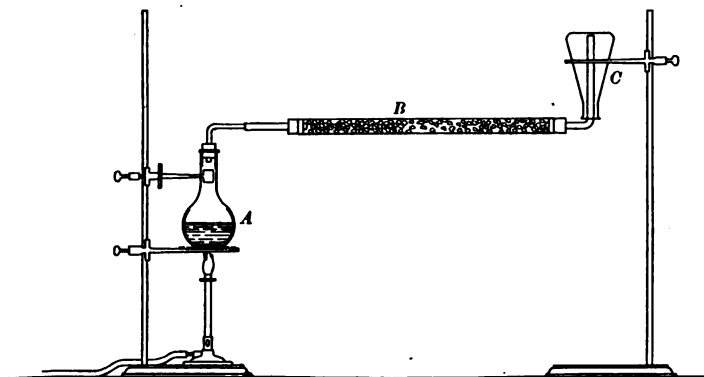

FIG. 39
**81. Weight of 1 liter of ammonia.** Arrange an apparatus as shown in Fig. 39. *A* is a 250-cc. flask containing about 100 cc. of concentrated ammonia water. *B* is a glass tube *entirely* filled with pieces of calcium oxide (unslaked lime) about the size of peas. *C* is the flask used in determining the weight of 1 liter of carbon dioxide (Fig. 30). Heat the ammonia water gently. Ammonia is evolved, is dried in passing over the lime in *B*, and collects in *C*. After *C* is filled with ammonia, proceed as in determining the weight of 1 liter of carbon dioxide. Give the results obtained.